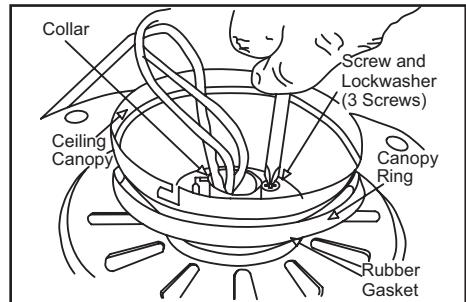

Figure 10
6. Align the mounting holes with the holes in the motor and fasten, using the three screws and lockwashers removed in step 4 (Figure 10).
5. Place the rubber gasket over the remaining three screws, route the wires exiting the top of the fan motor through the canopy ring (make sure the slot openings are on top), then proceed to place the ceiling canopy over the collar at the top of the motor (Figure 10).